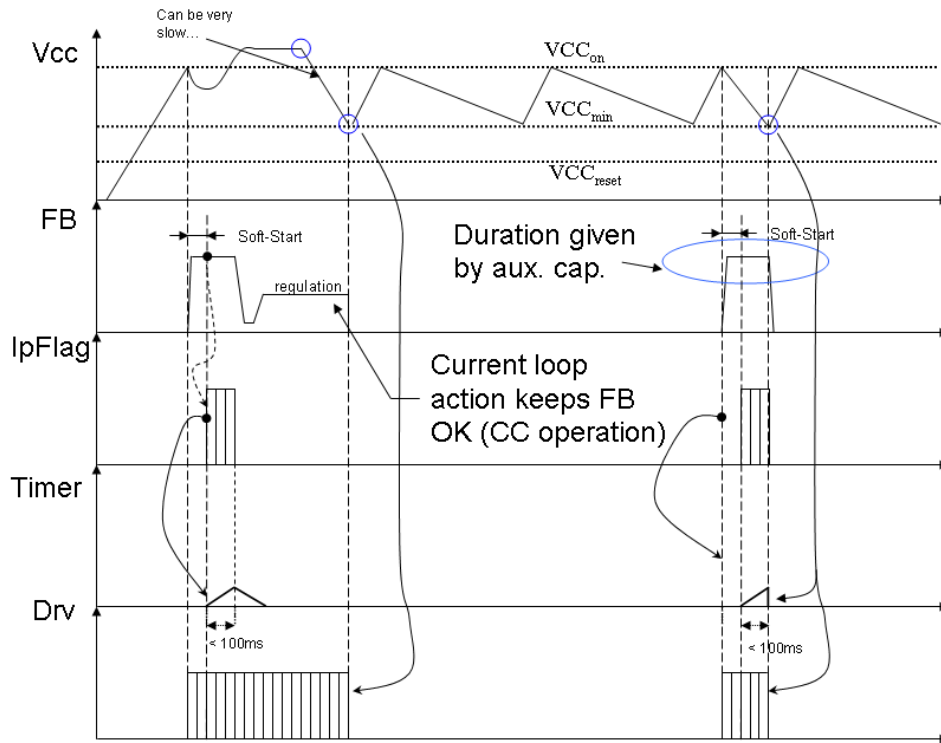

Figure 20. First Fault Mode Case, the Auxiliary Winding Collapses but Feedback is Still There
1. The converter regulates but the auxiliary winding collapses: this is a typical situation linked to the usage of a constant-current / constant-voltage (CC-CV) type of controller. If the output current increases, the voltage feedback loop gives up and the current loop takes over. It means that V_{OUT} goes low but the feedback loop is still closed because of the output current monitoring. Therefore, seen from the primary side, there is no fault. However, there are numerous charger applications where the output voltage shall not go below a certain limit, even if the current is controlled. To cope with this situation, the controller features a precise under-voltage lockout comparator biased to a $V_{CC_{min}}$ level. When this level is crossed, whatever the other pin conditions, pulses are stopped and the controller enters the safe hiccup mode, trying to re-start. Figure 20 shows how the converter will behave in this